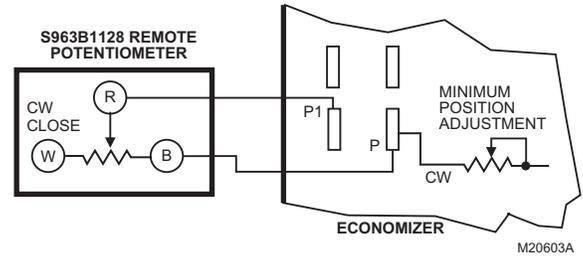

Fig. 32. S963B1128 Remote Potentiometer used with logic module for remote damper control.
Remote control of outdoor air dampers is desirable when requiring temporary additional ventilation. The addition of a S963B1128 Remote Potentiometer allows occupants to open or close the dampers beyond minimum position for modified ventilation. Connect the potentiometer as shown in Fig. 32.
3. Ensure that either the factory-installed jumper is in place across terminals P and P1 or, of remote damper position is required, that it is wired according to Fig. 32 and turned fully clockwise.